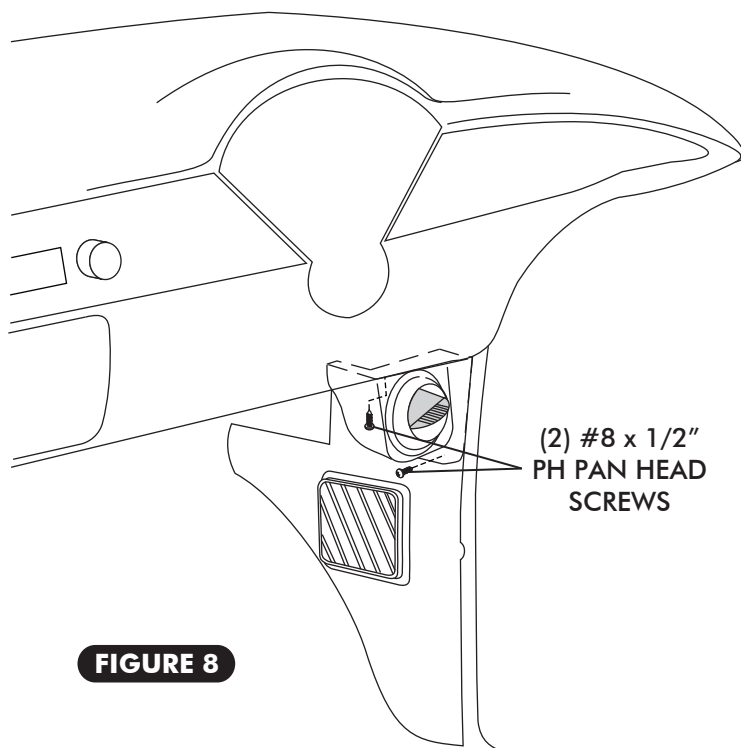

FIGURE 8
- ☐ INSTALL PASSENGER AND DRIVER SIDE BALL LOUVERS AS SHOWN IN FIGURE 8.
- ☐ SLIDE LOUVER UP TOWARDS BOTTOM OF DASH UNTIL THE LOUVER IS SEATED AGAINST DASH, AND SECURE TO KICK PANEL WITH (2) #8 x 1/2" PH PAN HEAD SCREWS. SEE FIGURE 8, ABOVE.